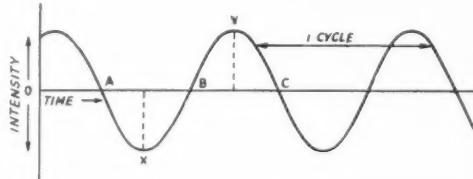
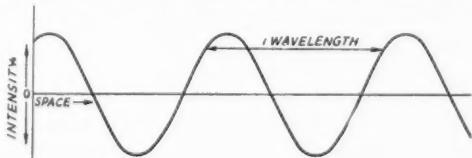

Fig. 1 — Sine-curve representation of intensity variations in a wave field with time, at a fixed observing point.
Fig. 2 — By changing the label on the horizontal axis, the sine curve can be made to represent intensity variations in space at a fixed instant of time.
Fig. 2 — Operation of an amateur station from inside a photography darkroom. The shack is next door to the darkroom as shown in (A) and contains a foot pedal-operated press-to-talk switch, a microphone and a speaker. A remote-local switch in the operating room cuts in the darkroom or ham shack control circuit as shown in (B). Ry₁ turns on the transmitter and Ry₂ cuts off the receiver when either S₁ or S₃ are closed.
Everyone who has done a little reading on radio knows that an electromagnetic wave in space consists of traveling fields of electric and magnetic force. The two fields are separate but not independent, and go through identical variations with time when viewed at a fixed point in space. In the case of a "pure" wave, or one involving only a single frequency, these time variations follow a sine curve; hence we draw (as in Fig. 1) the same curve to represent them that we use to show the variation with time of an alternating current. In the case of the alternating current, the ordinate above the zero axis commonly would be labeled
As applied to a wave, Fig. 1 says that the field (either one, electric or magnetic) exerts its force in some unspecified direction whenever the curve is above the axis and that this direction is reversed whenever the curve is below the axis. The curve does not show the *actual* direction; it has no means of doing so. By definition, the direction of an electric field of force is the direction in which a small positive charge would move when placed in the field; similarly, the direction of a magnetic field is the direction in which a small north pole would move in the field.
By changing the label on the horizontal axis from "Time" to "Space," as in Fig. 2, we can get a different interpretation from the same curve. Now we assume that instead of making our observation at a fixed point in space and letting time run on, we take an instantaneous snapshot of the intensity variations in the field as they are distributed along a line parallel to the direction in which the wave is moving. If we could make time stand still while we moved along such a line measuring the field intensity, the value of the field at any point along the axis would be proportional to the height of the curve above or below the axis at that point. Again we should find a periodic reversal in direction. However, the curve merely says that the direction reverses; it does not say what the direction is. The distance between any two points having the same direction and intensity is equal to the wavelength of the wave, as shown on the drawing. But obviously the curve does not give an actual picture of the wave — no more than it did with the different label in Fig. 1.
tion, which is the direction of the line itself. The magnetic lines surround the conductors of the parallel line, and form concentric circles between the conductors of the coaxial line; they are everywhere perpendicular to the electric lines and to the direction of propagation. This is shown in Fig. 4. The intensity of the fields varies along the line at any instant just as in the case of the space wave whose intensity-space variation is shown in Fig. 2, and the intensity varies with time at a given point as shown in Fig. 1.
A simple graphical approach to this requires still another method of depicting the wave. Suppose that the sine curve of Fig. 2 showing the space distribution of the field intensity at a given instant is imagined to exist in three dimensions, resembling corrugated paperboard or a corrugated tin roof. Then Fig. 2 is a view of the edge, and a rough indication of the top view of the curve is given by Fig. 8, where a thin line represents a null, a solid heavy line a positive maximum and a dashed heavy line a negative maximum. Keep in mind that the lines in this method of representation are not lines of force (that is, they do not show the direction of the field) but simply mark the regions in space where maxima and nulls exist. We are looking down on the wave in much the same way that we can look down on ripples in a stream from the vantage point of a bridge. The direction of travel is perpendicular to the lines of maxima and minima, just as the direction of travel of water waves is perpendicular to the "ridges" in the water. The distance between any two adjacent lines in the direction perpendicular to them is a quarter wavelength, between any two alternate lines a half wavelength, and so on.